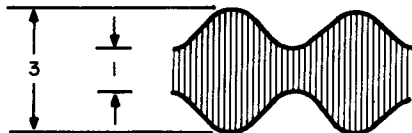

Figure 3. Scope Pattern for 50% Modulation
- d. Set the SIGNAL SELECTOR switch to INT MOD and the AF MOD/OUTPUT control to 50. Connect the RF output of the instrument to the scope. Adjust potentiometer R20 on the PC board for a 3:1 peak-to-peak, valley-to-valley ratio on the scope as shown in figure 3.